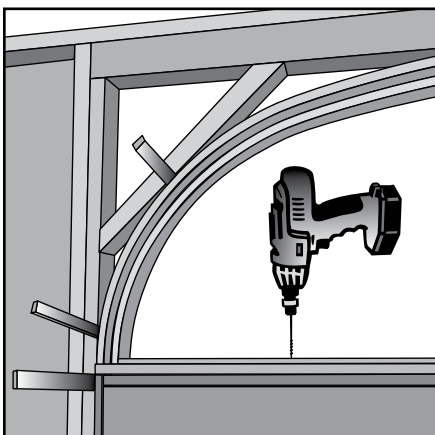

Fig. 36
- D. Fasten transom jamb to head jamb with 1-1/4" screws into pilot holes (**Fig. 36**).